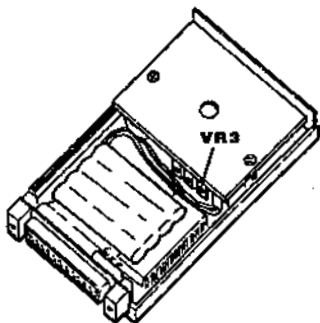

Figure 2-1
2. Refer to Figure 2-1 and locate control VR3, on the smaller circuit board close to the optional internal battery plug. Then adjust this control as necessary for the proper output level.